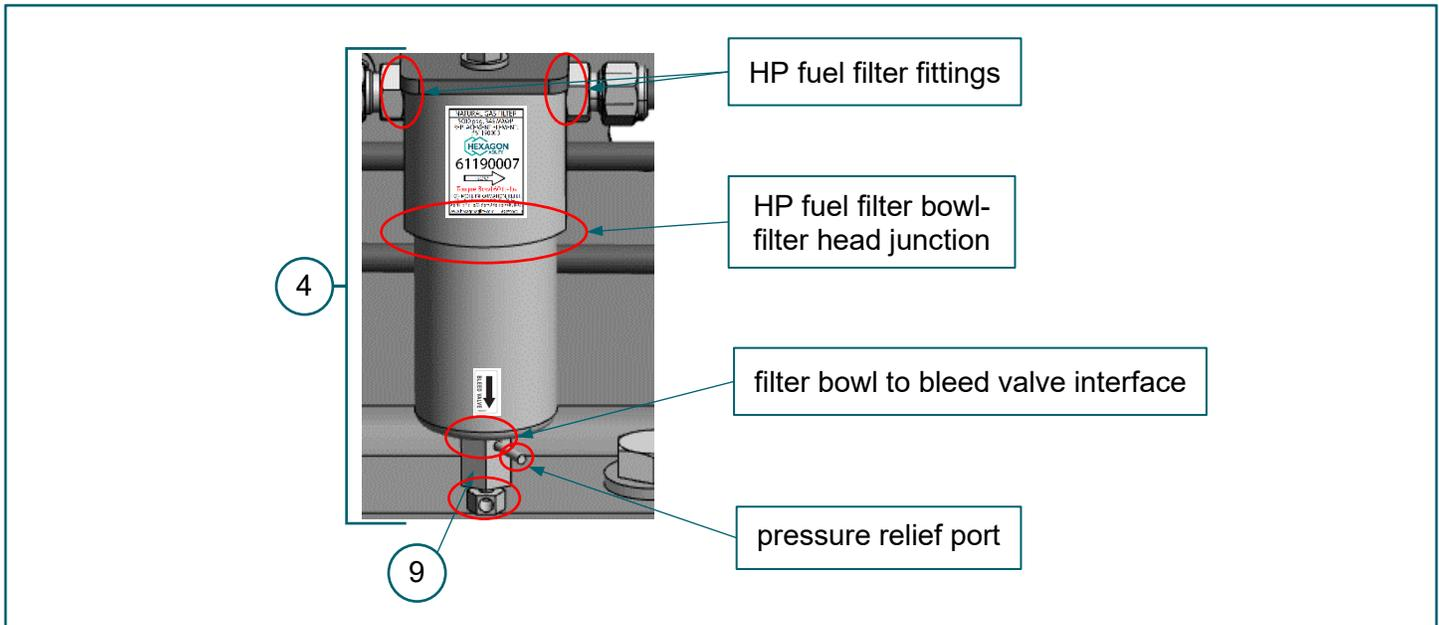

FIGURE 4-2. Apply leak detection fluid to (4) HP fuel filter assembly and (8) bleed valve at locations circled
4. Apply leak detection fluid to HP fuel filter bowl-filter head junction, all HP fuel filter fittings, the HP fuel filter bowl to bleed valve interface, and pressure relief ports and wait 3 minutes. **FIGURE 4-2**